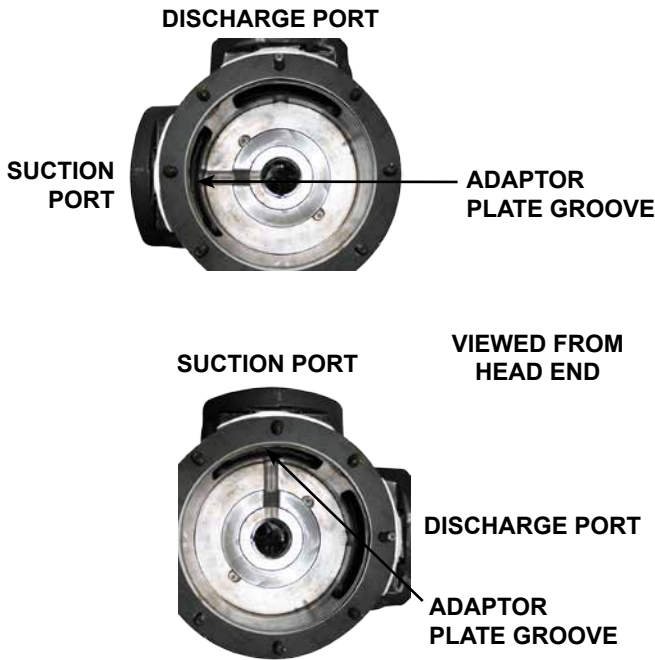

FIGURE 15
2. Position the adaptor plate so the adaptor plate groove aligns to groove in the casing bore at suction port, see **Figure 15**. Carefully slide the adaptor plate into the bracket side of the casing. Use care to prevent cutting the O-ring with the edge of the adaptor plate or casing. Secure into position by tightening the eight capscrews.
4. Apply a light oil to the first set of thrust washers on the side of the thrust washer that will touch the rotor or adaptor plate. Place the thrust washer that does not have a groove onto the shaft so that the blind holes in the thrust washer will line up with the drive pins on the back of the rotor. Place the thrust washer with a groove onto the adaptor plate so that the groove in the thrust washer will line up with the grooves in the adaptor plate, see **Figure 15**.